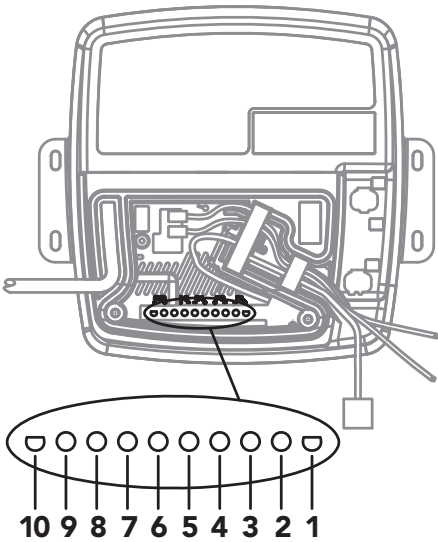

Figure 10
1. Connect individual speaker wires — or a 10-pin MATE-N-LOK adapter with attached wires — to the speaker outputs. Refer to **Figure 10** and **Figure 11** for connector identification.